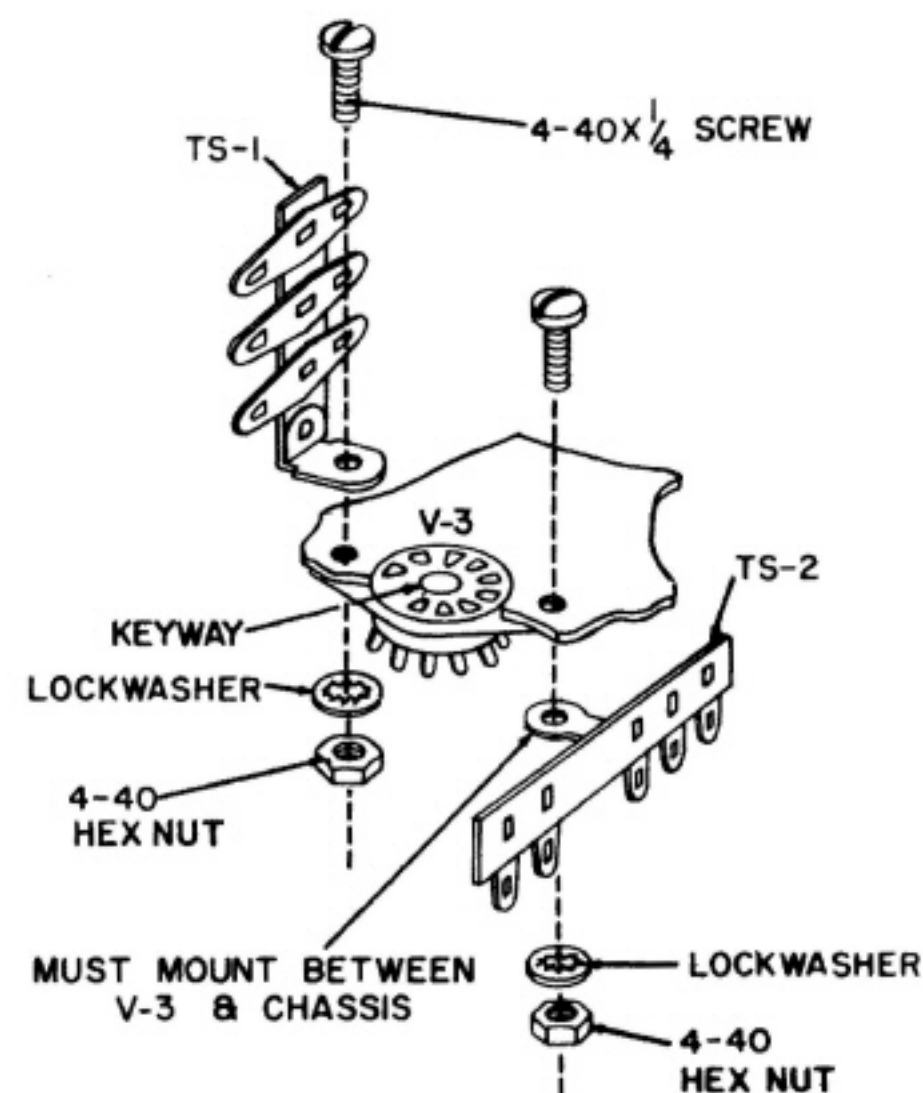

FIGURE 4
- ☐ 9-pin tube socket for V3; TS-1, 3-terminal strip; TS-2, 5-terminal strip. Position the tube socket with the keyway as shown. Position TS-2 between the tube socket and chassis. Fasten these parts with a  $4-40 \times \frac{1}{4}$ " screw, lockwasher, and nut. See Figure 4. Mount TS-1 to the top of the chassis. Insert a  $4-40 \times \frac{1}{4}$ " screw through the terminal strip and other side of tube socket. Fasten with a #4 lockwasher and nut.